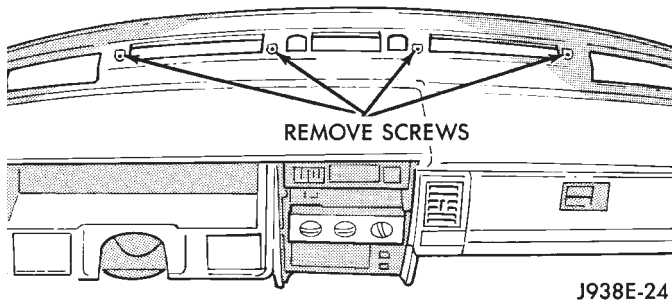

Fig. 2 Upper Dash Pad Attaching Screws
- (4) Remove center bezel.
- (5) Remove 2 screws holding dash pad located behind top of center bezel.
- (6) Gently pry defroster bezel out of dash pad.
- (7) Unplug sensors (if equipped) and set defroster bezel aside.
- (8) Remove 4 screws in defroster duct opening holding dash pad (Fig. 2).